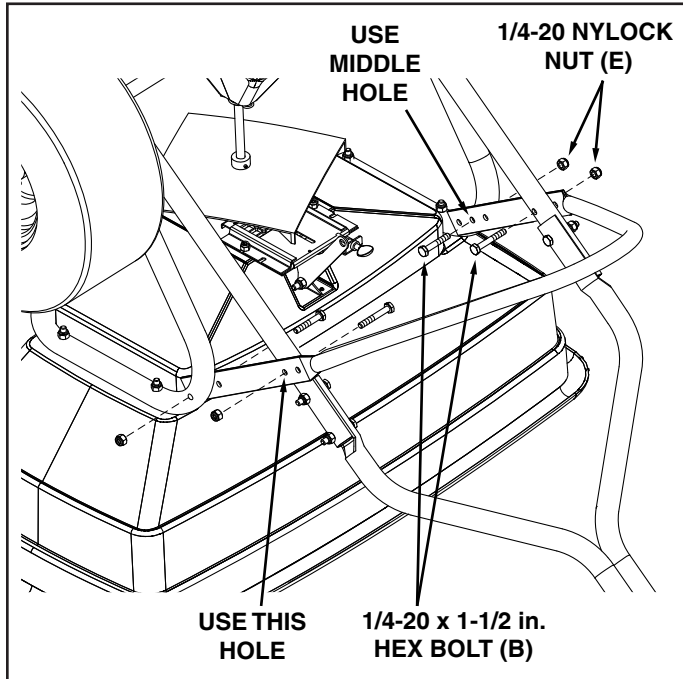

FIGURE 4
7. For the standard setup, use the holes shown in the illustration. Other hole combinations allow different handle heights and hopper angles. **Do not** use holes in stand that are farthest apart as a combination - flow gate may not close completely. Attach the stand to the hopper frame tube using two 1/4 x 1-1/2 in. bolts and nylock nuts. Attach the stand to the lower handle using two 1/4 x 1-1/2 in. bolts and nylock nuts. Tighten all four bolts to secure the stand. See figure 4.